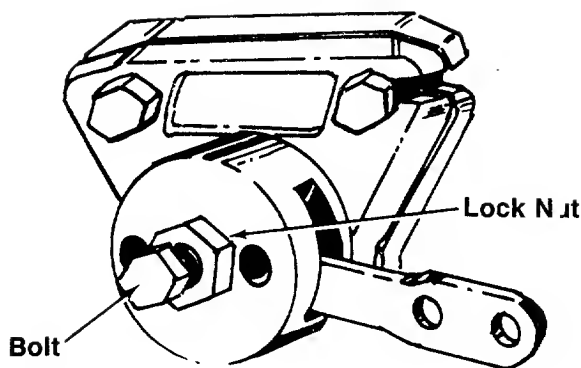

FIGURE 12.
1. Loosen the lock nut. See figure 12.